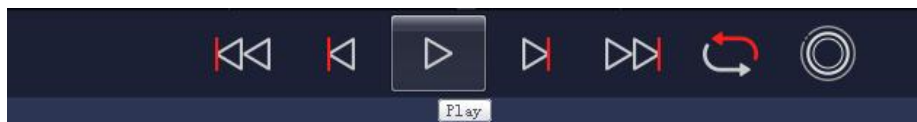

Figure C-8 RSView Play Button and Scrub Tool
4. Click the **Play** button to play or pause the data. Use the Scrub sliding tool to slide back and forth to select frames at different positions in the data. This tool and the **Record** button are in the same toolbar (Figure C-8)